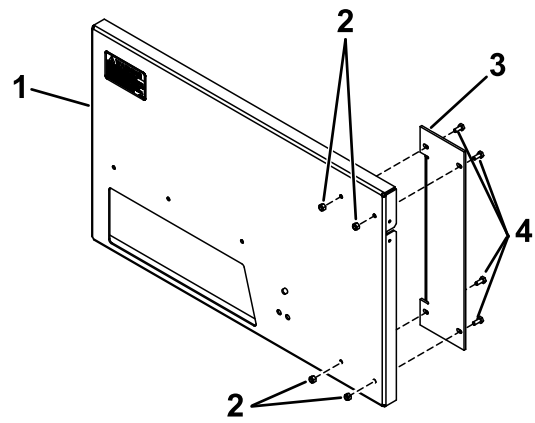

Figure 1
1. Install the support on the back plate using 4 bolts (1/4 x 5/8 inch) and 4 locknuts (1/4 inch); Figure 1.